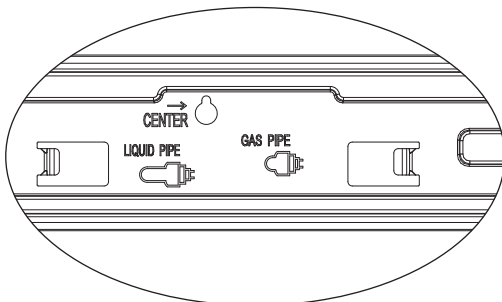
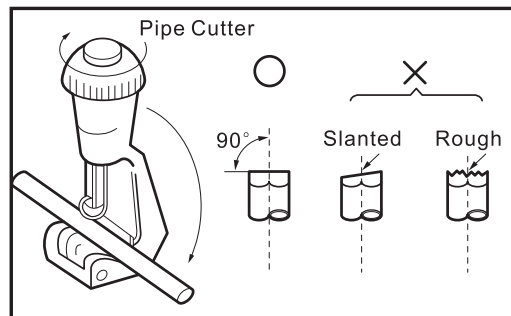

Fig. 3
Fig. 4
- 2) Cut the pipe and cable. Cut the liquid pipe and gas pipe to the right length according to the position mark on the wall mounting plate (Fig. 3). Ensure that the cut is flat (Fig. 4).